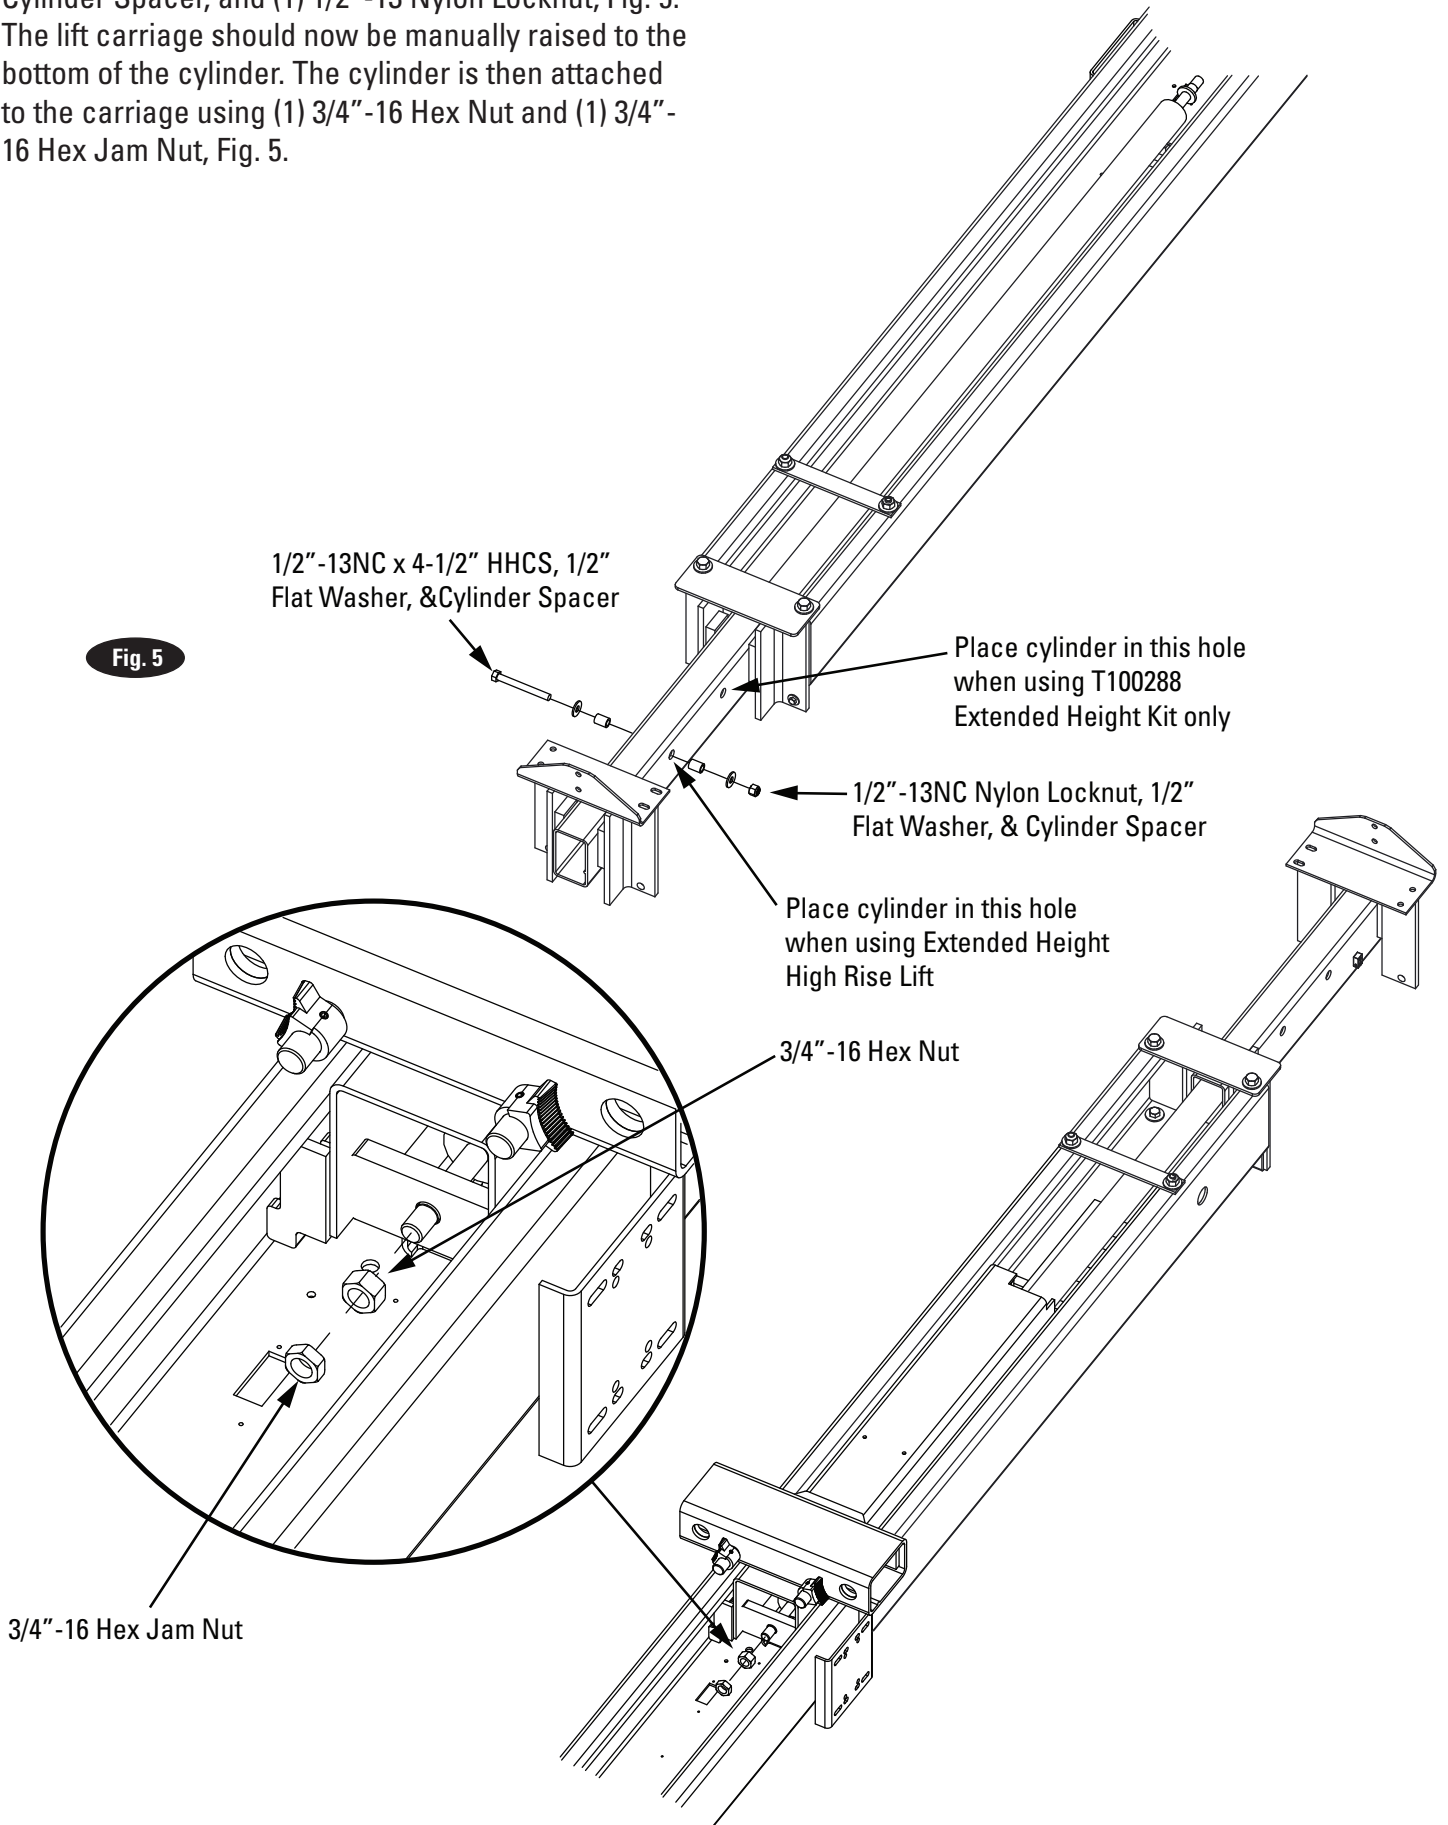

Fig. 5
5. Cylinder Install (Extended Height): With the extension installed the cylinder will be installed with (1) 1/2"-13x4-1/2" HHCS, (2) 1/2" Flat Washer, (2) 1/2" Cylinder Spacer, and (1) 1/2"-13 Nylon Locknut, Fig. 5. The lift carriage should now be manually raised to the bottom of the cylinder. The cylinder is then attached to the carriage using (1) 3/4"-16 Hex Nut and (1) 3/4"-16 Hex Jam Nut, Fig. 5.